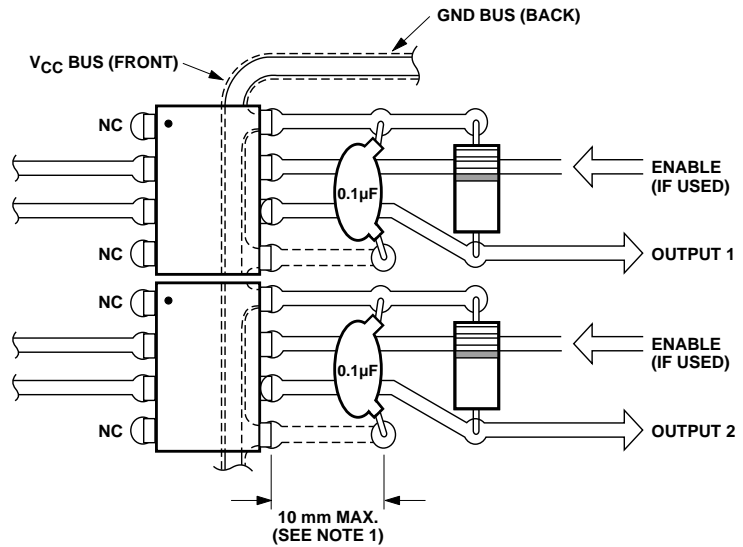

Figure 15. Recommended Printed Circuit Board Layout.
1. Bypassing of the power supply line is required, with a 0.1  $\mu\text{F}$  ceramic disc capacitor adjacent to each optocoupler as illustrated in Figure 15. Total lead length between both ends of the capacitor and the isolator pins should not exceed 20 mm.